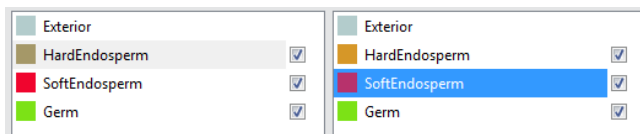

Figure 13.26: Contact Mode
- *Contact*: The contact mode allows selecting interfaces between two materials. Select the two materials from the materials list (Figure 13.26).